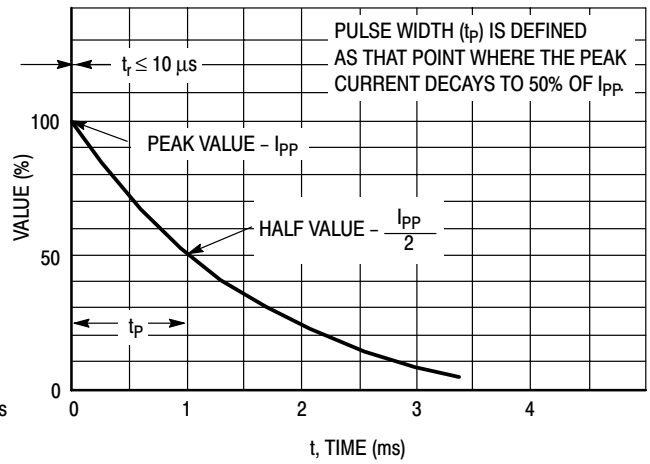

Figure 2. Pulse Waveform
6. Surge current waveform per Figure 2 and derate per Figure 3 of the General Data – 600 Watt at the beginning of this group.